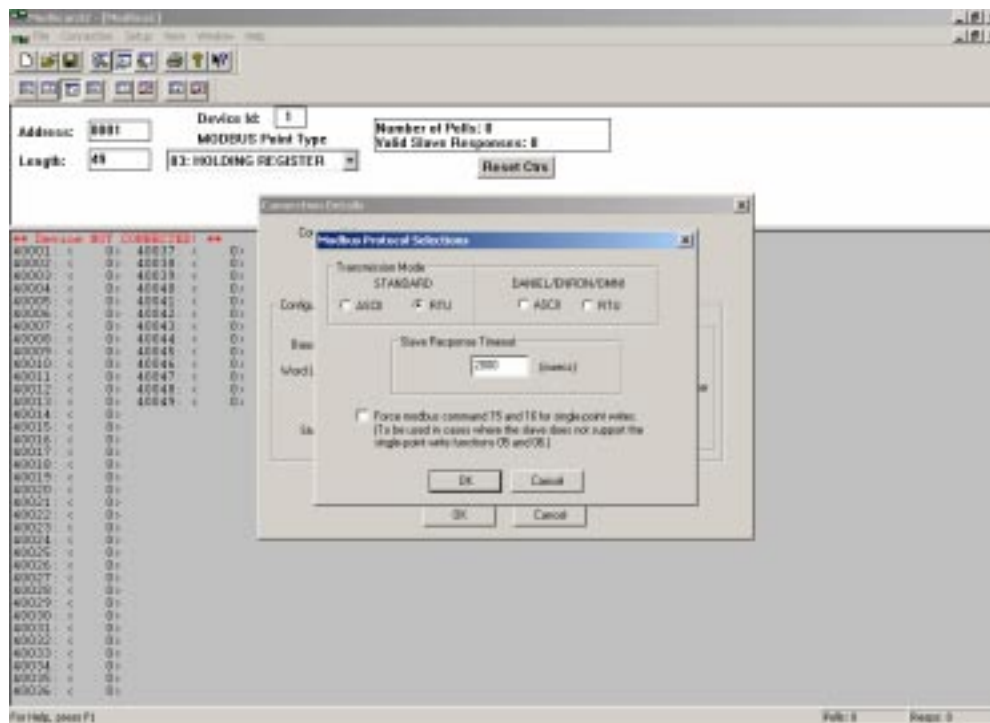

FIGURE 17. MODBUS PROTOCOL SELECTION DIALOG BOX
3. Click on the “Protocol Selections” button and change the Transmission Mode to “RTU” (see Figure 17). Click “OK.”